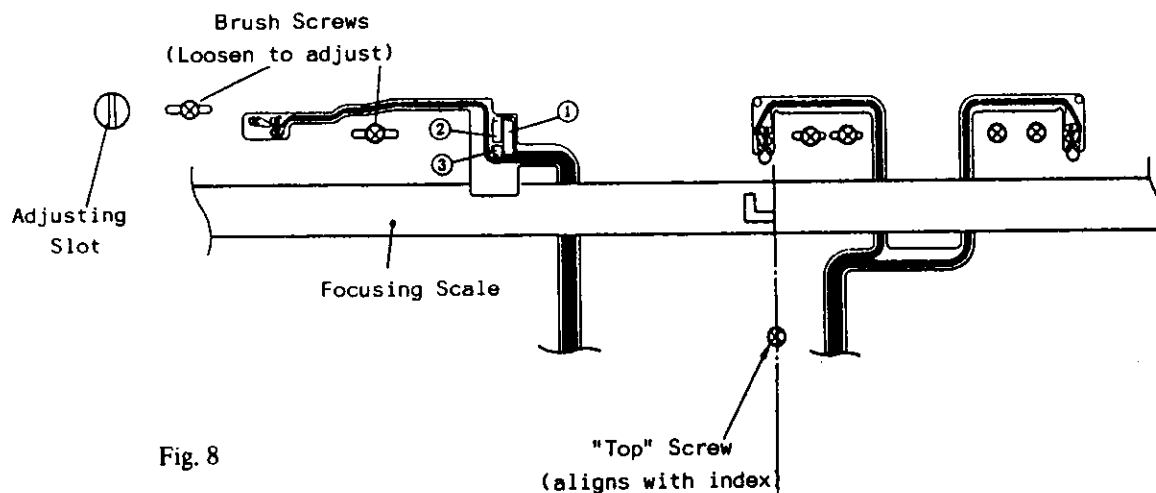

Fig. 8
1. Disassemble from the mount end (pg. 9, 10) all parts except (8), (9), (10), and (11), and then reinstall the mount and complete the circuits with the camera.
2. Temporarily short (1) and (3) (Fig. 8) with tweezers to set the lens in manual focusing mode.